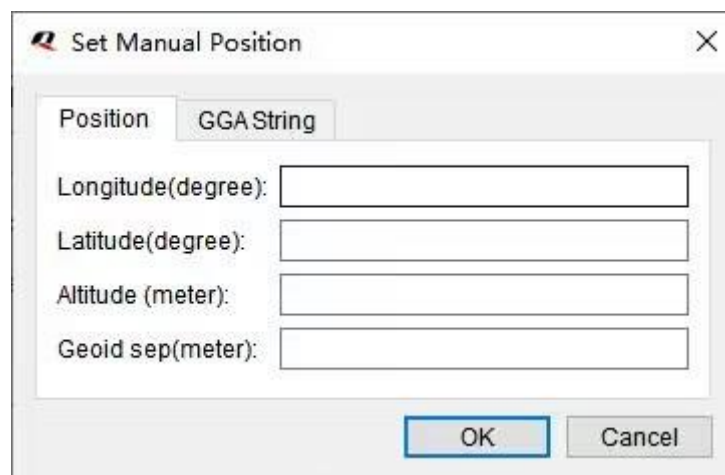

Figure 27: Setting Manual Position
- Step 5:** To utilize a fixed position, you can select the checkbox labeled **“Use manual position”**, and a **“Set Manual Position”** window will appear as shown in Figure 27: Setting Manual Position. Once you input the required data, the uploaded position will be the fixed value you have manually set. If the checkbox remains unchecked, the real-time position in the **GGA** message output by the module will be used.